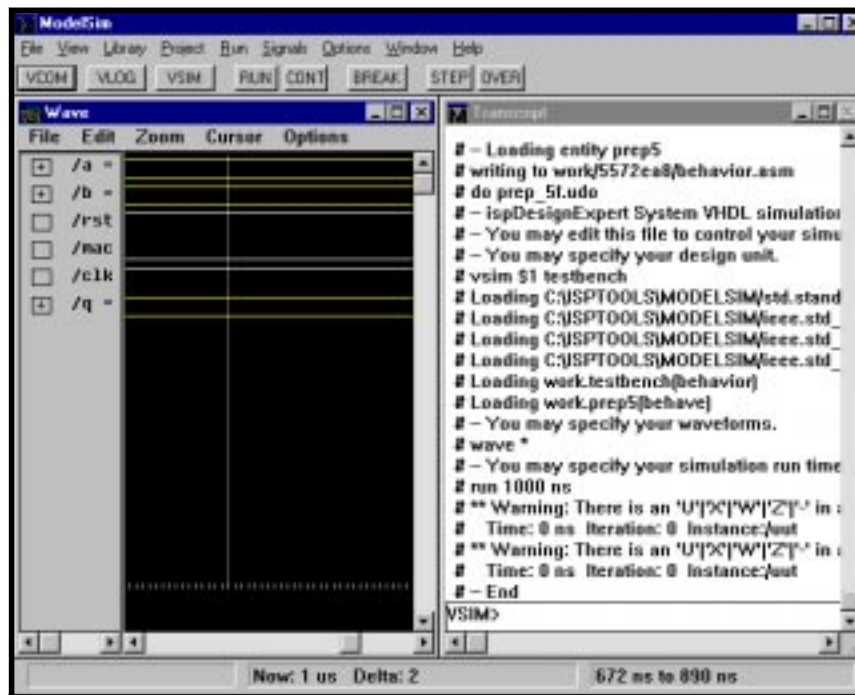

Figure 6-2. ModelSim Window
3. The ModelSim application window and the Transcript window appear when the simulator launching is finished. Then your design is automatically being compiled and simulated in ModelSim. The waveforms of the included signals are displayed in the Wave window after successful simulation (Figure 6-2).